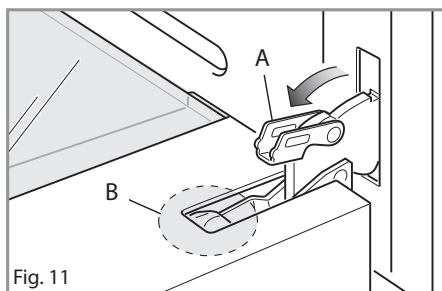

Fig. 11
- Fully open the lever **A** on the left and right hinges (Fig 11).
- Gently close the door until the left and right hinges are hooked to part **B** of the door (Figs. 11, 12).